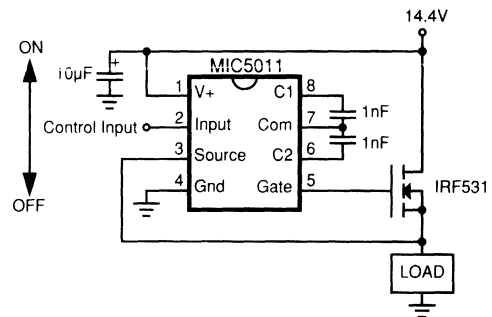

Figure 3. High Side Driver with External Charge Pump Capacitors
The charge pump incorporates a 100kHz oscillator and on-chip pump capacitors capable of charging 1nF to 5V above supply in 60µs typical. With the addition of 1nF capacitors at C1 and C2, the turn-on time is reduced to 25µs typical (see Figure 3). The charge pump is capable of pumping the gate up to over twice the supply voltage. For this reason, a zener clamp (12.5V typical) is provided between the gate pin 5 and source pin 3 to prevent exceeding the  $V_{GS}$  rating of the MOSFET at high supplies.
**Modifying Switching Times** (Figure 3). High-side switching times can be improved by a factor of 2 or more by adding external charge pump capacitors of 1nF each. In cost-sensitive applications, omit C1 (C2 has a dominant effect on speed).